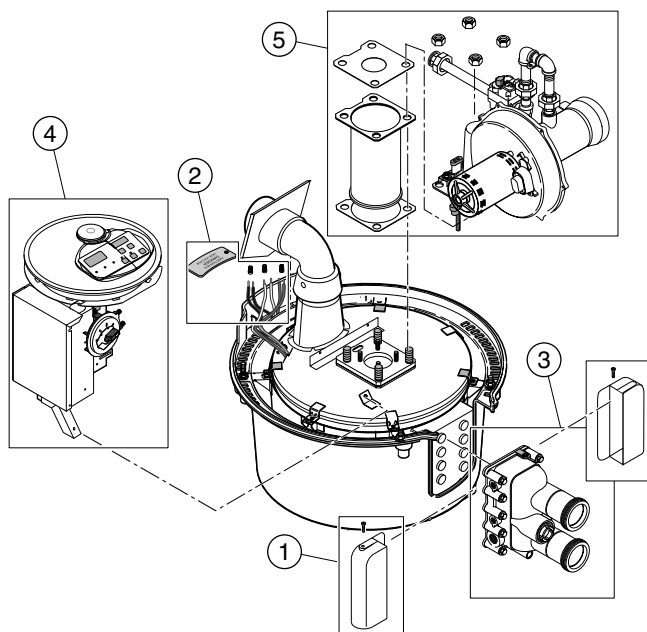

Figure 2: Removal of major sub-assemblies
5. Remove the switch covers on both sides of the manifold and unplug the wires from the Automatic Gas Shutoff, the High Limit Thermostat, and the Thermistor (See Figure 2, Key No. 1). If necessary, disconnect the Water Pressure Switch and remove it.
8. Disconnect the incoming electrical wires at the junction box and cut the wire tie holding the Wiring Harness to the Lower Enclosure (See Figure 2, Key No. 2).
9. Disconnect the inlet and outlet unions and move the heater enough to allow removal of the manifold adapter and the inlet/outlet manifold as a unit (See Figure 2, Key No. 3).
13. Unplug all wires to the Control Box. Unscrew three nuts and remove the Control Box, the Heat Shield, and the Membrane Pad and Cover as a unit (See Figure 2, Key No. 4).
14. Unscrew the four nuts holding the Blower Adapter Plate to the top of the Combustion Chamber and remove the Combustion Air Blower, the Igniter, the Combination Gas Valve and associated piping and the Blower Adapter Plate as a unit (See Figure 2, Key No. 5). Remove the Flameholder and Flameholder Cone (if used).